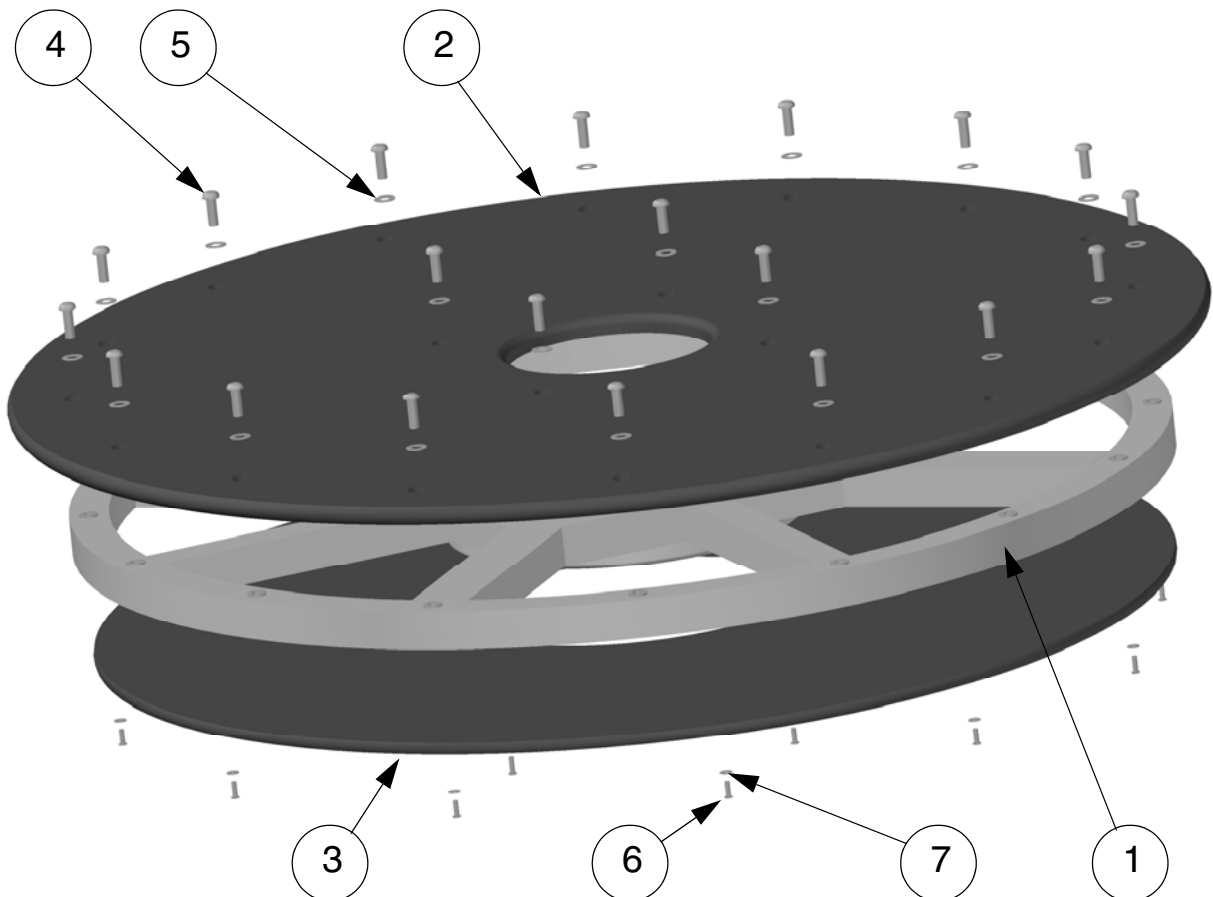

FIG.1
- i) The Deck Panel Top can be removed from the Deck Assembly by removing the 20 off M10 x 30 Resistorx bolts (item 04) and Washers (item 05). FIG.1